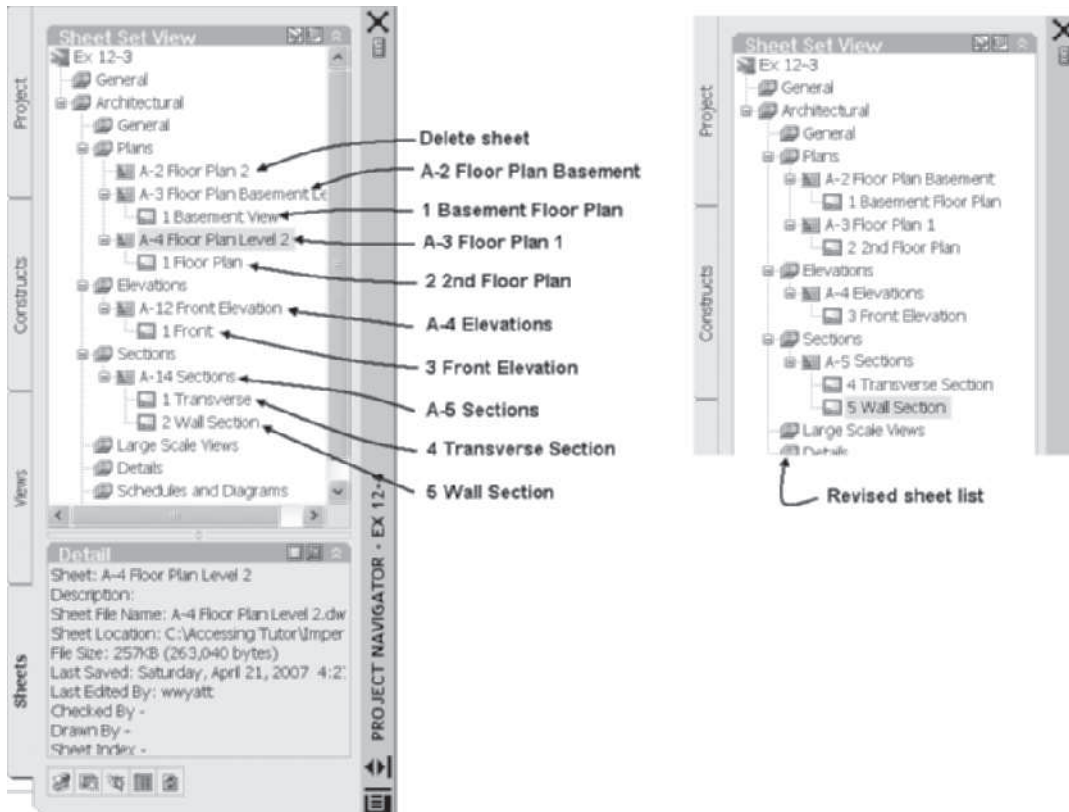

FIGURE 12.87 Revision of sheets
23. Select the **Sheets** tab. Expand each category of sheet to display the sheets views placed on the sheets as shown at the left in Figure 12.87. Although the project is not complete the names and numbers of the sheet and view should be adjusted. Select the A-2 Floor Plan 2 sheet, right-click, and choose Delete Sheet. Choose Yes to dismiss the Confirm Sheet Remove dialog box. Select the remaining sheets or views, right-click, and choose **Rename and Renumber**. Edit the sheets and views as shown in Figure 12.87. Check **Rename drawing file to match** the sheet title and check **Prefix with sheet number**.